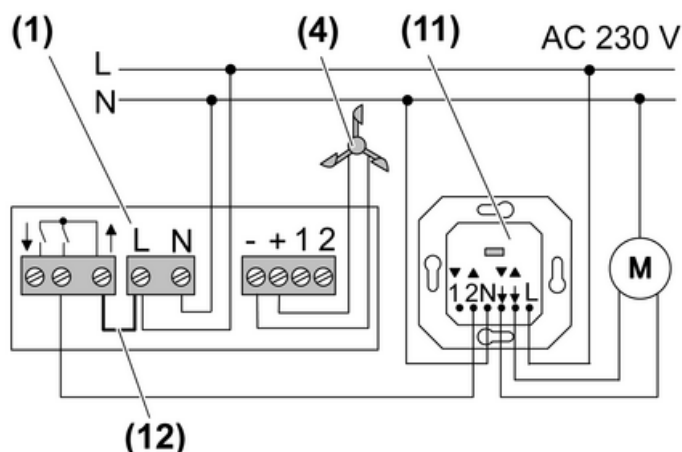

Figure 4: Connection diagram for connecting the wind sensor interface to the Venetian blind controller.
- Fasten the device using two screws (10). The screws and anchors are contained in the scope of delivery.
- Insert the cables into the connection housing and connect the according to the connection diagram (Figure 4).
- i** The distributor terminal (5) serves to connect the protective conductor.